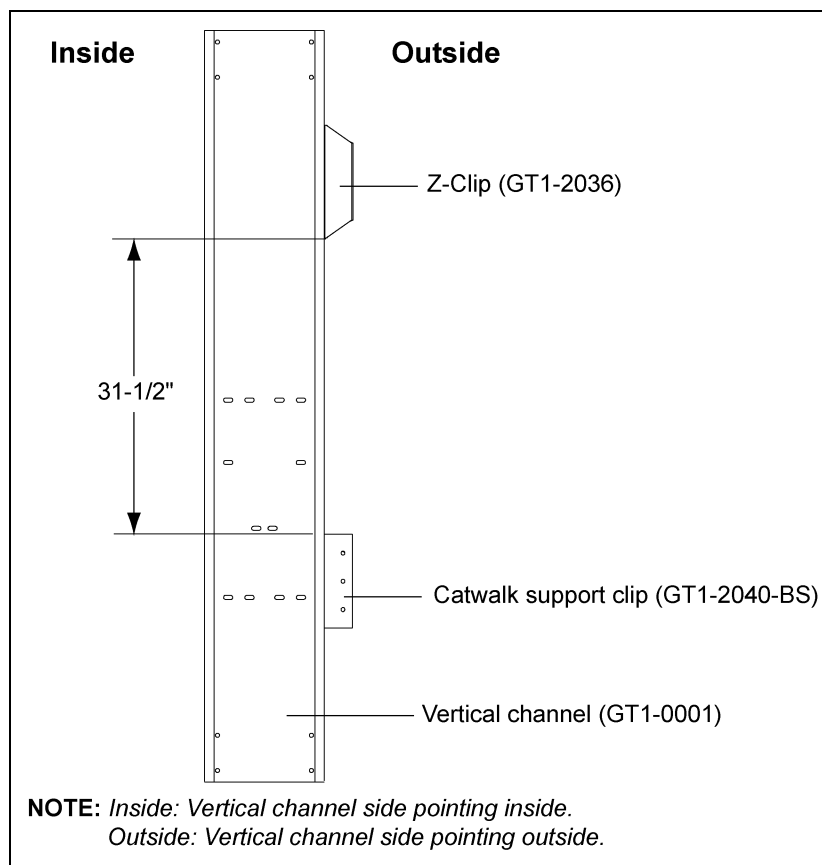

**Figure 6H**
2. The distance between the Z-clip and support clip 12' offset and roof hatch platform is 31-1/2". *(See Figure 6H below and Figure 6J on Page 48.)*